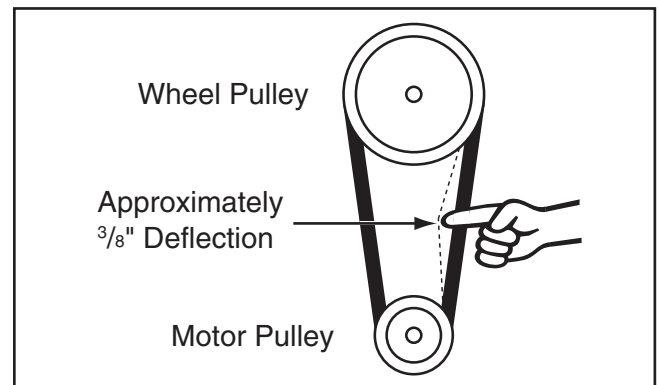

Figure 51. Correct belt deflection.
5. Pivot motor clockwise. Apply pressure on motor so there is approximately $\frac{3}{8}$ " belt deflection (see **Figure 51**), then tighten motor mount cap screws.